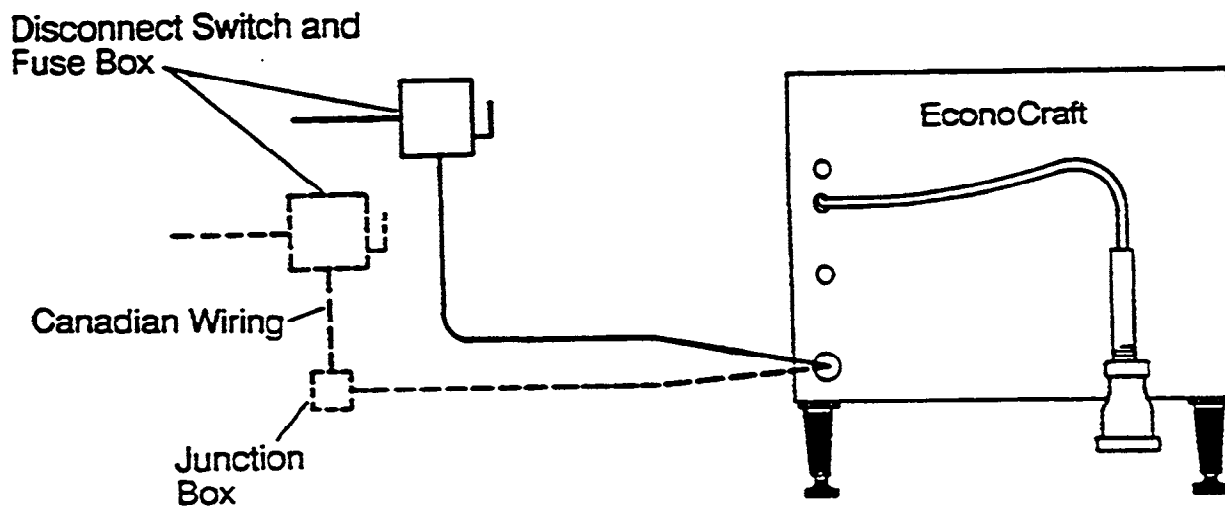

Figure 2-8. Electrical Layout
Furnishing and installing the electrical power lines, switches, fuse boxes, connectors and their accessories is the responsibility of the owner and/or installer. Figure 2-8 illustrates an electrical layout recommended by Cleveland Range. When installing the electrical power lines and accessories, observe the following instructions.
3. Refer to electrical schematic, Figure 2-8, and Table 2-3. Minimum Wire Requirements. Verify that the proper size fuses or breakers are installed. Check that the POWER switch on the EconoCraft is in the OFF position by pressing the left side of the switch. Turn on electric power to the EconoCraft at the fused disconnect switch.